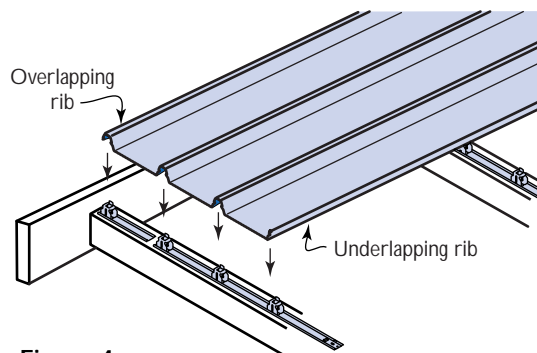

Figure 4
- 7 Place the glass wool insulation between the purlins (Figure 4).